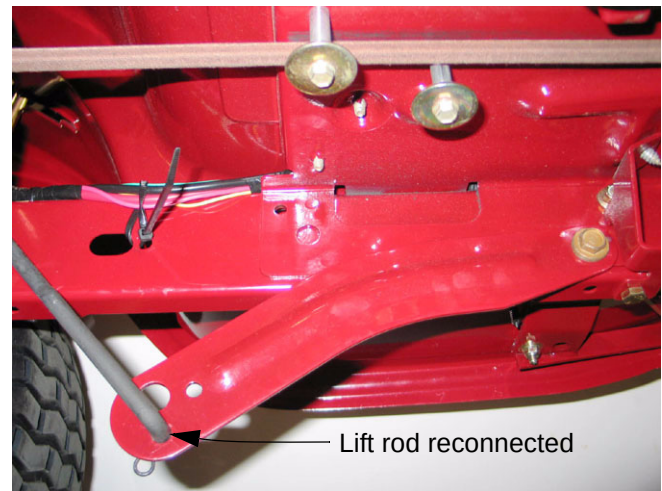

Figure 2.5
- 2.5. With the deck on the ground, the lift rods can be reconnected to the lift links. This will enable the rods and links to be moved out of the way by lifting the deck height lever. See Figure 2.5.